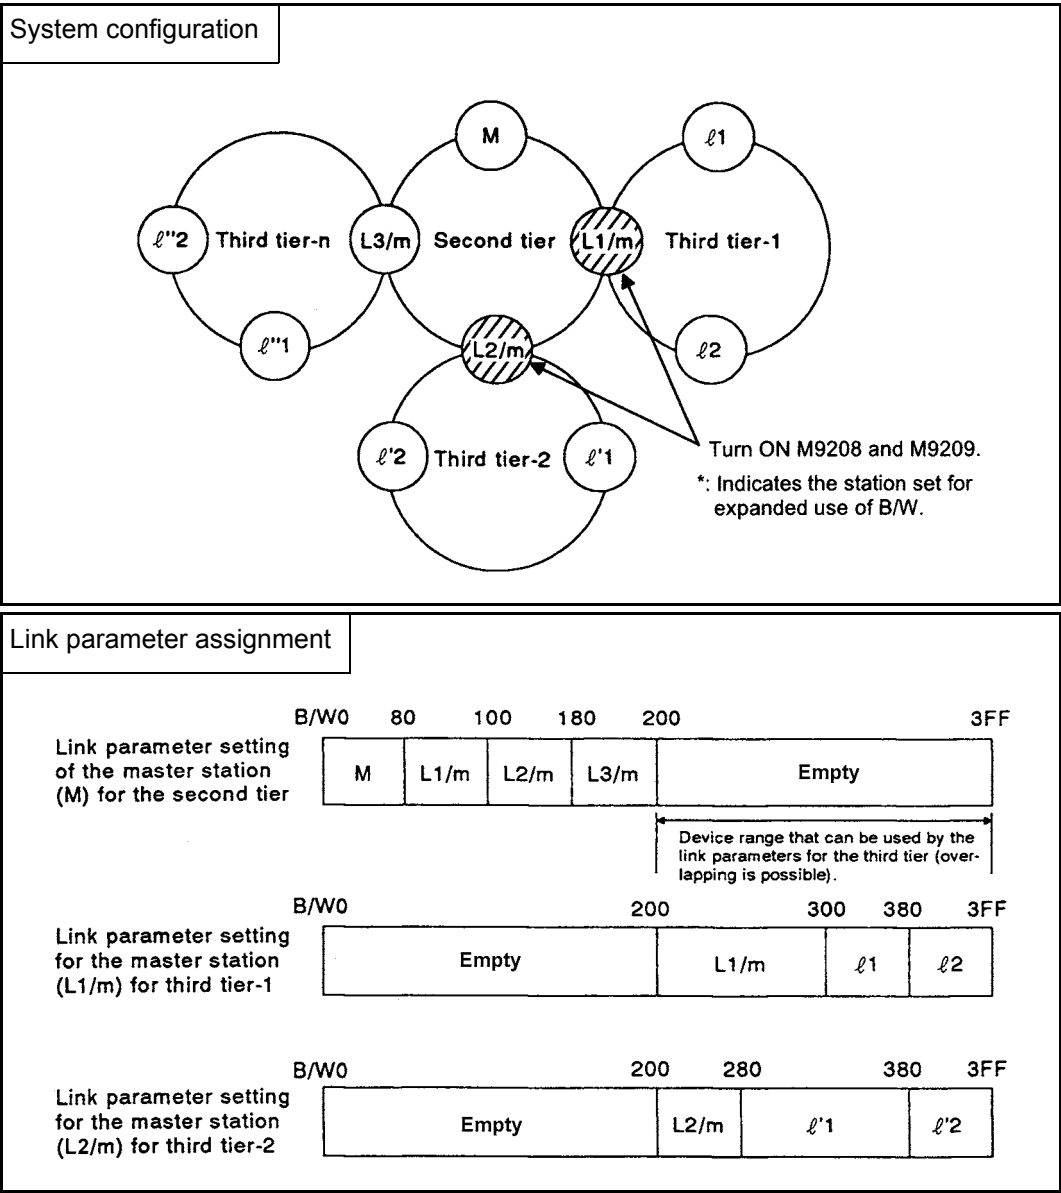

Fig 5.8 Expanded use example of link relay (B) and link register (W)
In a system with two or more master stations for the third tier as illustrated in Fig 5.8, when the link relay and link register exceeds the above-mentioned points, they can be expanded. In this case, the communication range that can be used is different from the communication range that can be used without expanding the range.
- (2) Expanded link relay (B) and link register (W) range
- The device range that is not assigned to the link parameters for the second tier can be assigned to the link parameters for the third tier (third tier-1, third tier-2, ... third tier-n). For this assignment, the same range can be assigned to different data link. For example, when 512 points of B/W0 to 1FF are used for the second tier as illustrated in Fig 5.8, the device range of B/W200 to 3FF can be redundantly assigned to the third-tier-1 link and also to the third-tier-2 link.
- (3) Data communication range with expanded link relays (B) and link registers (W)
- (a) Link relays (B) and link registers (W) used by the two-tier link cannot be used for sending data to the local stations connected to any of the third-tier links. They can be used to send data to the master stations (L1/m, L2/m,, Ln/m) for the third tiers. This is because these master stations execute communication with the master station for the second tier as local stations for the second tier.
The expanded link relay (B) and link register (W) device range that can be used for communication in the system configuration in Fig 5.8 is shown in Table 5.4.